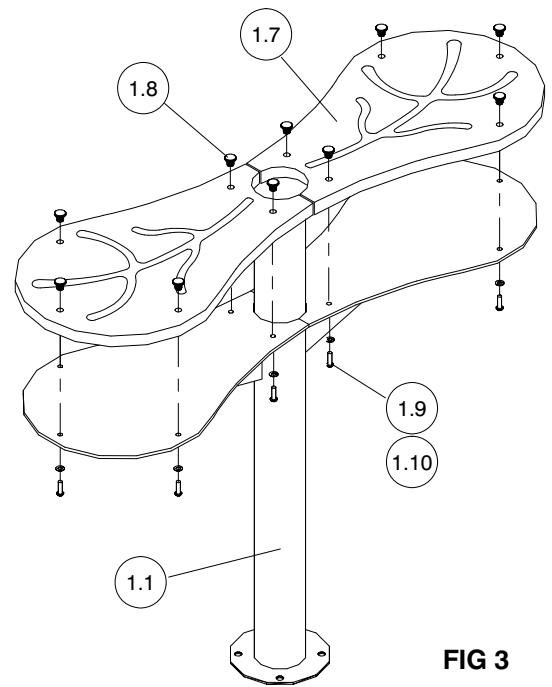

FIG 3
- ii) Attach the seats (1.7) to the support assy (1.1) using 10-off M6 Torx bolts (1.9), washers (1.10) and tee nuts (1.8). (Fig 3).